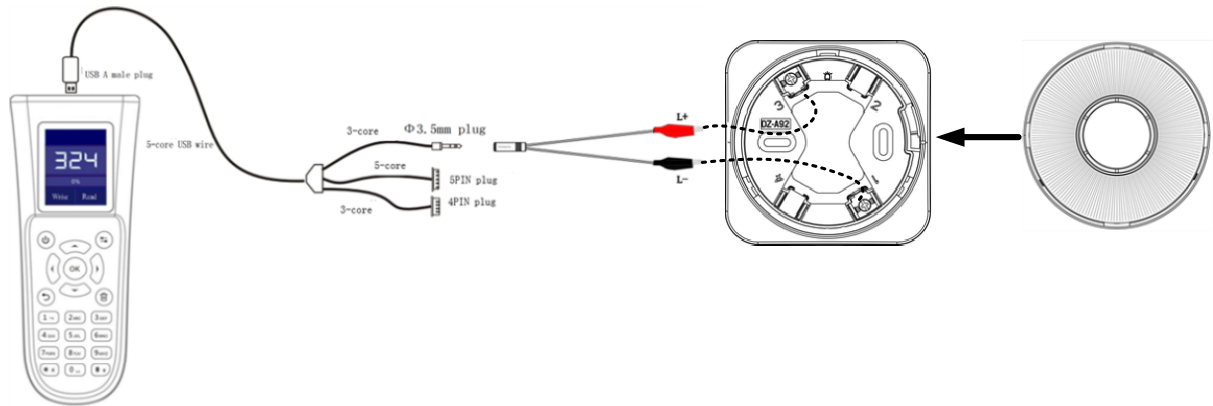
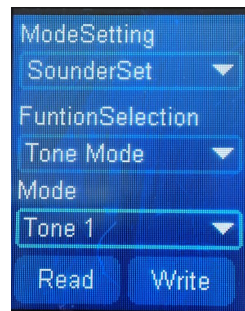

Fig.5
Fig.6
- (4) Tone mode setting: the tone mode of the Sounder Beacon is set by the coder, the wiring method is as shown in Fig. 5, Select “Coder” →” ModeSetting” ,Entering the mode coding interface, the interface setting is as shown in Fig. 6, and according to the following table, select the corresponding mode code to set the desired tone mode, press the "OK" to complete the tone coding setting.